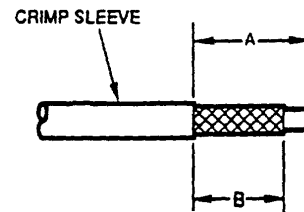

Figure 5. Cable Strip Length
b. Slide crimp sleeve over cable. Using coaxial cable stripper, strip jacket dimension A from end and trim shield to dimension B from jacket, as shown in Figure 5.